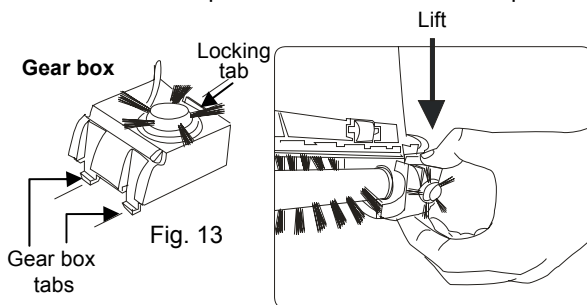

Fig. 14
4. Push in on the locking tab of the gear box and lift gear box to remove. (Fig. 13 & Fig. 14)